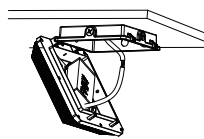

FIGURE 2-6
6. Connect the wires properly. If the fixture is equipped with sensor, adjust the sensor settings as your demand. Take relevant waterproof measures after finished wiring (Figure 2-6)